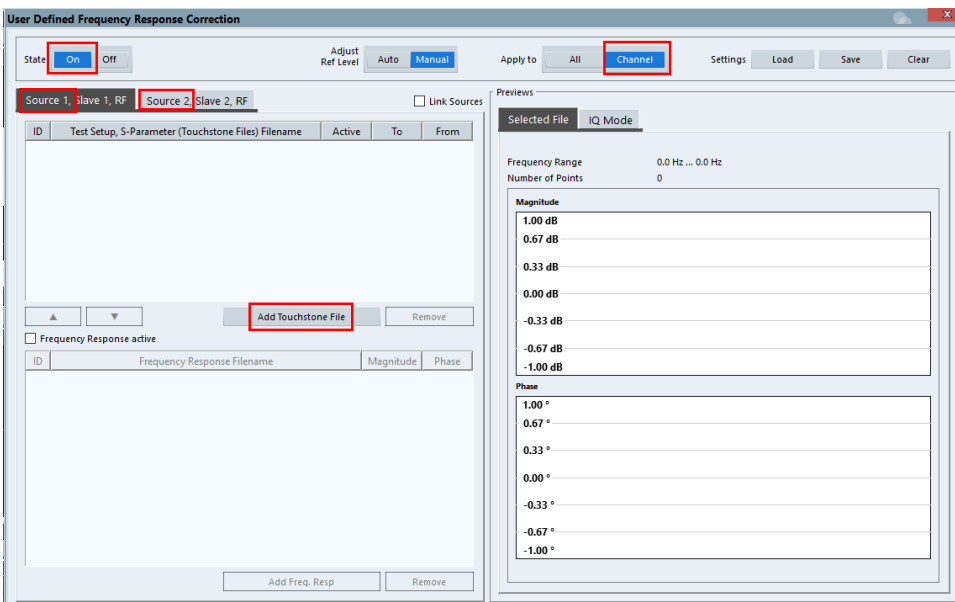

Fig. 3-3: Enter and enable the Touchstone file
1. As shown in Fig. 3-3, select "**Channel**". This allows the multiple input sources to apply the FRC separately.